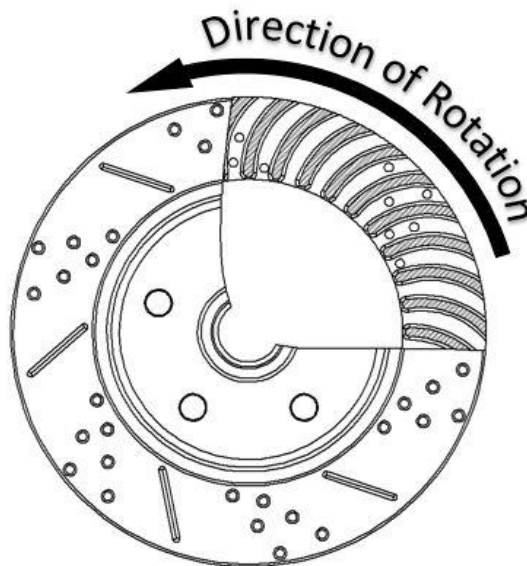

Figure 3 – Direction of Rotor Rotation
5. Place the correct LH or RH rotor onto the hub assembly. Use three lug nuts when installing to hold the rotor tight against the hub which will allow for accurate shimming of the calipers which will be done in a later step. When installing rotors, be sure to follow the direction of rotation indicated on the rotor hat area with either an arrow or with an “L” for driver side or an “R” for passenger side. Figure 3 below shows the direction for reference.